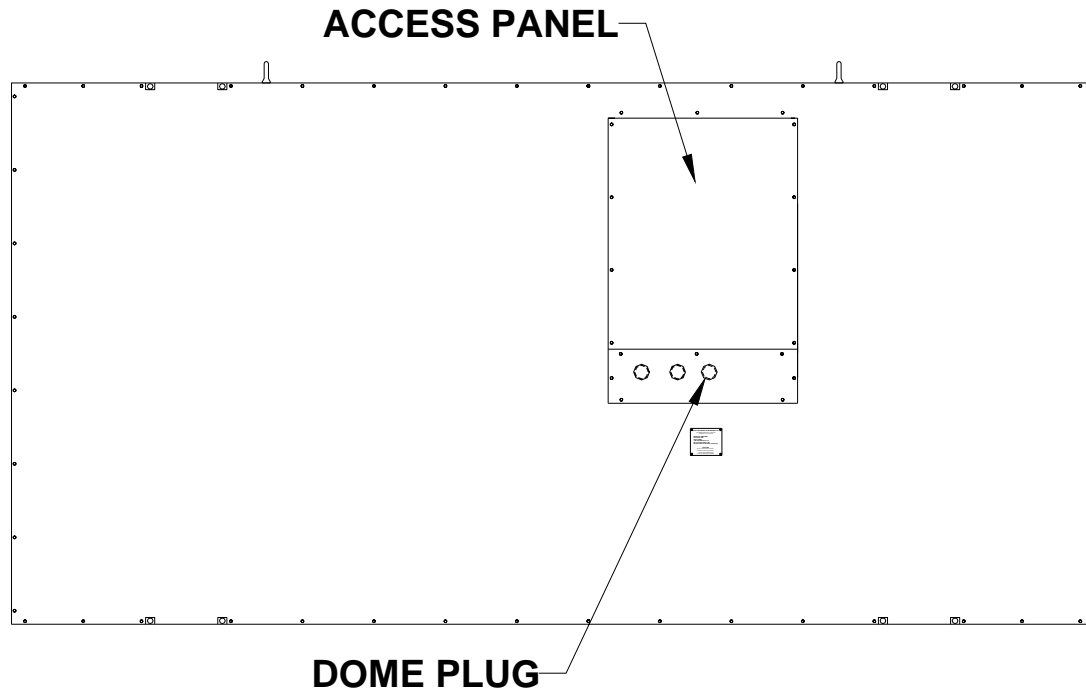

Figure 6 Rear Access Panel
3. Remove the rear access panel and the dome plugs on the plate below the access panel. Figure 6 shows the location of the access panel and the dome plugs.